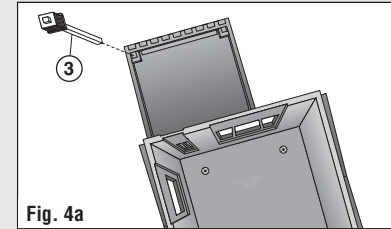

Fig. 4a
- Glue the Canopy Support Posts 2x ③ into the placement holes in the canopy (Fig. 4a).